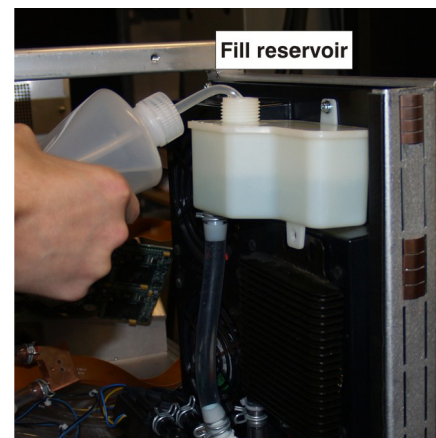

Figure 21 Fill Reservoir
- j. With the reservoir and hoses relatively empty, add a little distilled water into the reservoir using the fill bottle provided with the kit (**Figure 21**).